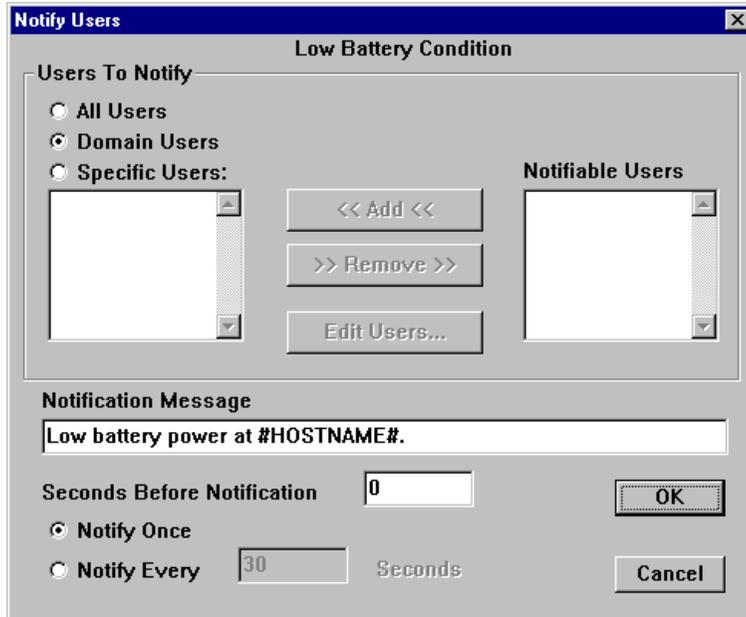

Figure 175. Setting the Options for Notify Users
3. Click **Options** to the right of **Notify Users**. Figure 175 appears: